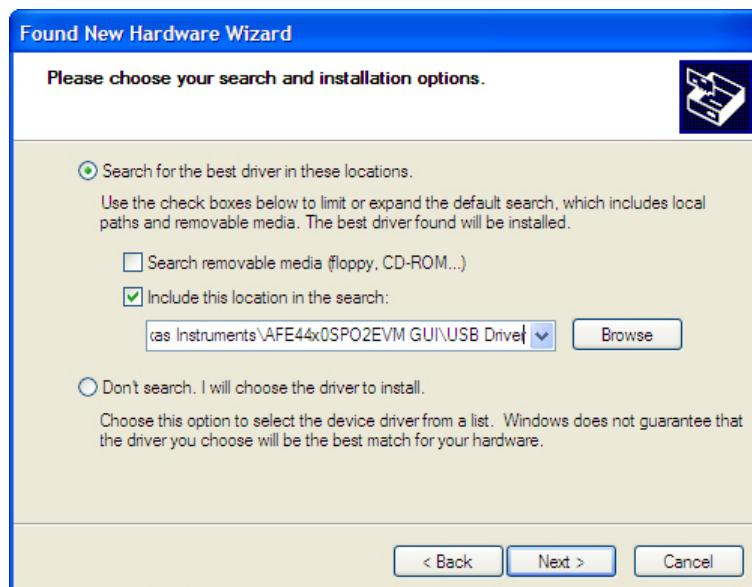

Figure 10. USB Driver Installation – Screen 3
4. As shown in Figure 10, navigate to the directory where the *AFE44x0.inf* file is located by clicking the **Browse** button. The file is located at the following path: